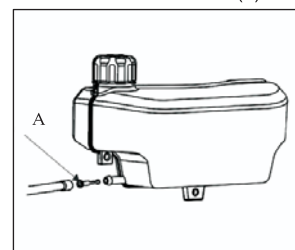

Fig.14 A. fuel strainer
3. Reinstall the fuel strainer (A) and fuel line. (See Fig. 14)